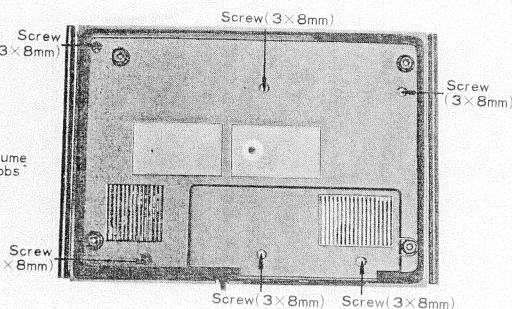

Figure 5. Location of screws
2. Remove the six screws of the bottom cover and separate bottom cover from the cabinet by lifting upward. See figure 5.